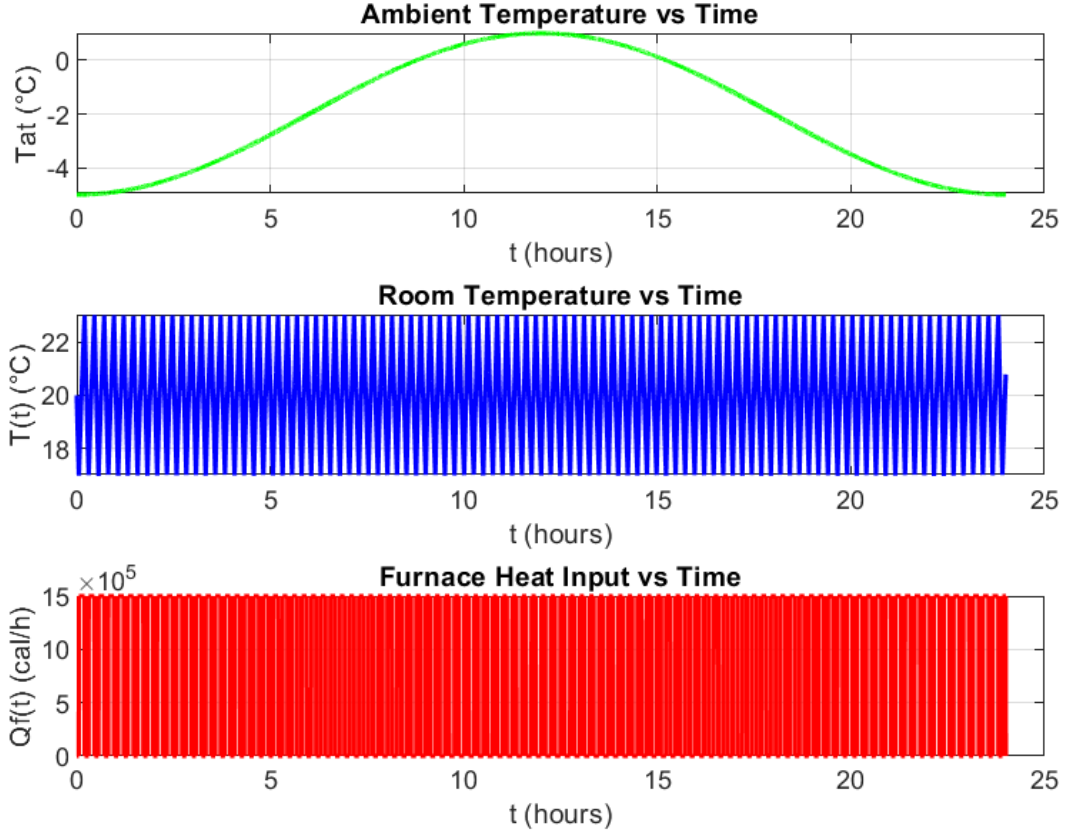

Figure 2: Temperature and Furnace Input Over Time
- (2.4) With a new oscillating definition of T_a , we get Figure 2 below demonstrating the temperature and furnace input over time.